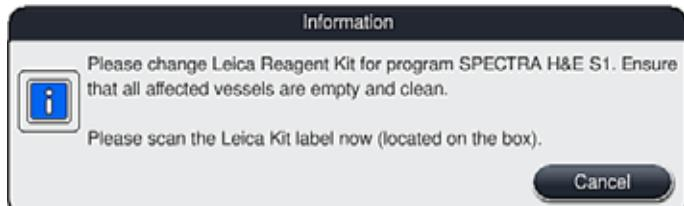

Fig. 57
1. When prompted by an information message (→ "Fig. 57") on the screen, stop the carton's packaging label in front of the RFID sensor on the front of the instrument (→ "Fig. 58-1") to scan it.
- Scanning in the Leica reagent kit can only be canceled by using the "Cancel" button in the message shown in (→ "Fig. 57") and before starting to read in the package label without the Leica reagent kit expiring.